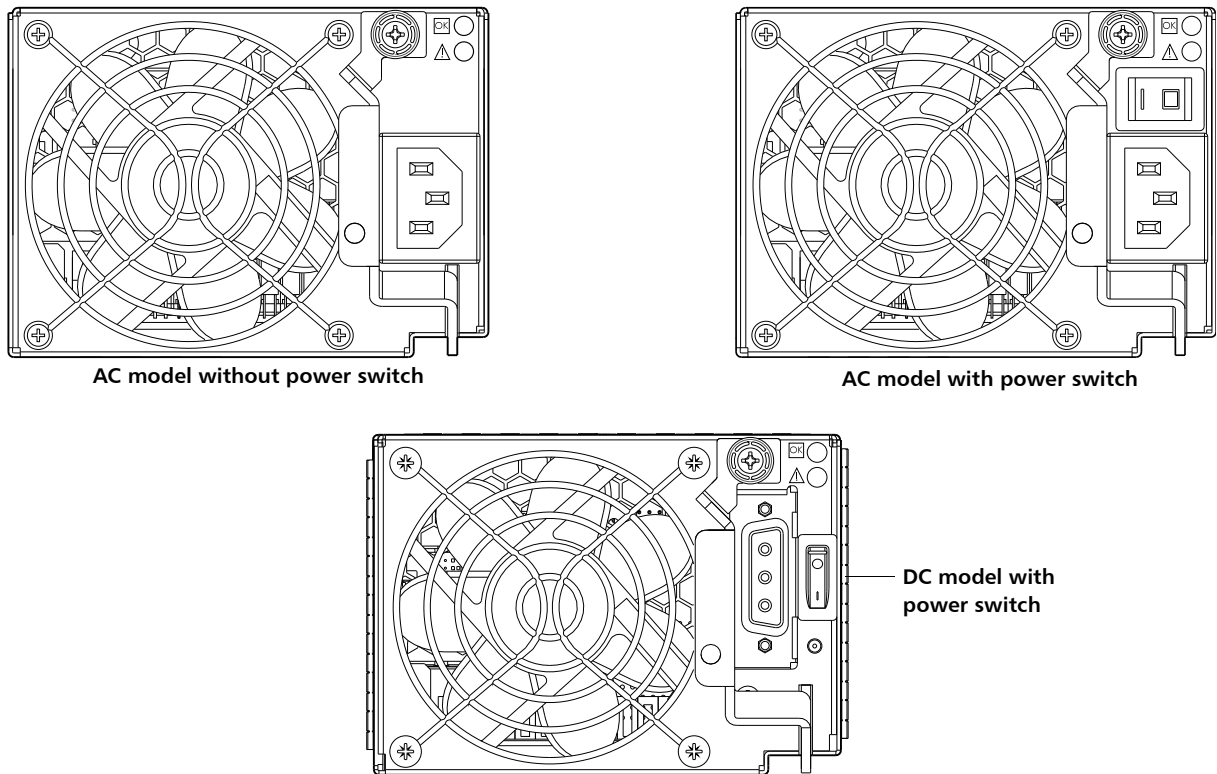

Figure 11 Orienting a PSU
- 1 Orient the PSU with the AC or DC connector toward the right as shown in Figure 11.
LEDs for a PSU are located in the top right corner of the module, as shown in Figure 11 on page 140.